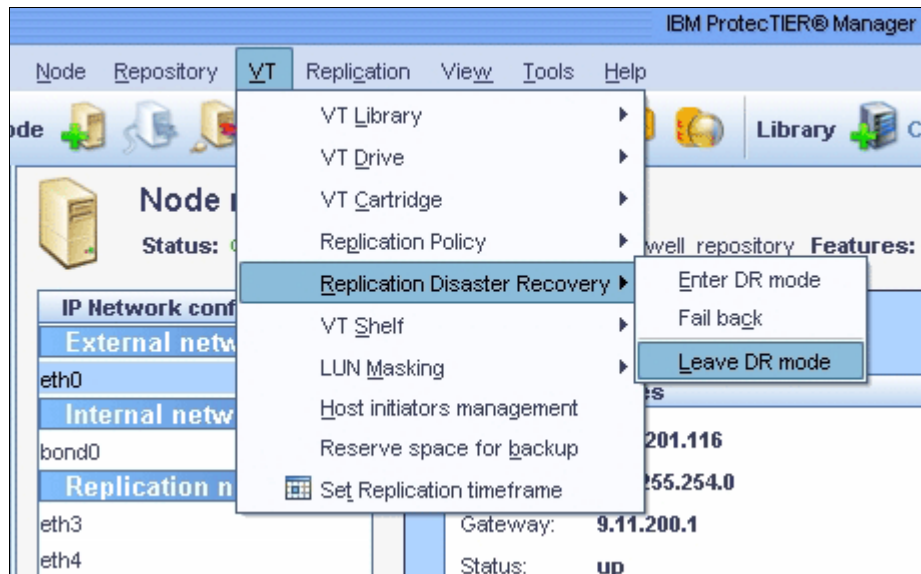

Figure 11-17 ProtecTIER leave DR mode
1. Select **VT** → **Replication Disaster Recovery** → **Leave DR mode**. The Leave DR mode window opens (Figure 11-17).